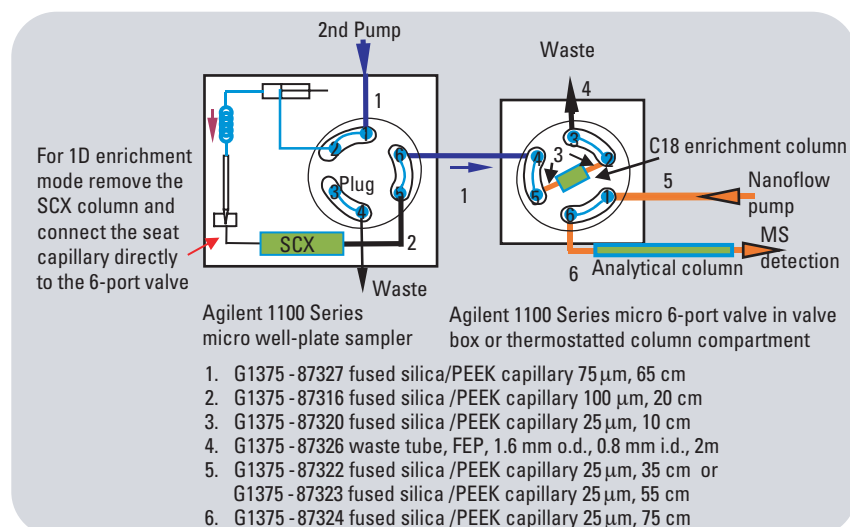

Figure 13
B.2. 1D Enrichment LC method (figures 13 and 14)
B.3. 2D LC method (figures 13 and 14)